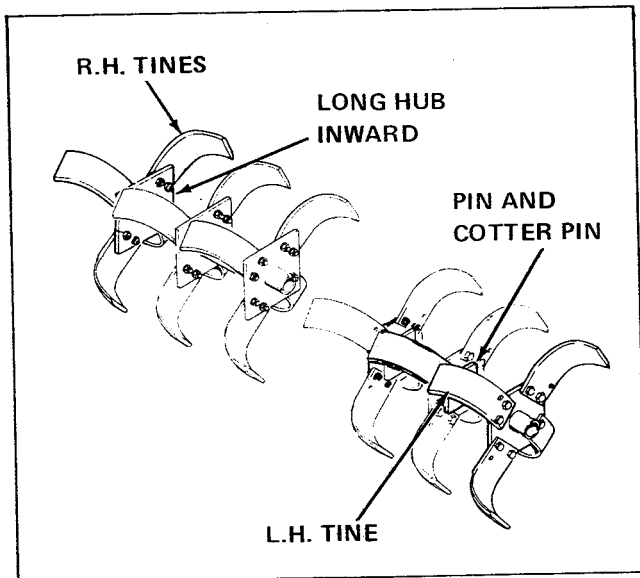

Figure 7.
9. Depending upon what tilling width desired, install right and left tine blade assemblies as follows. Use a pin and hairpin clip for installation. See Figure 7 for right inner, outer and extension tine installation.